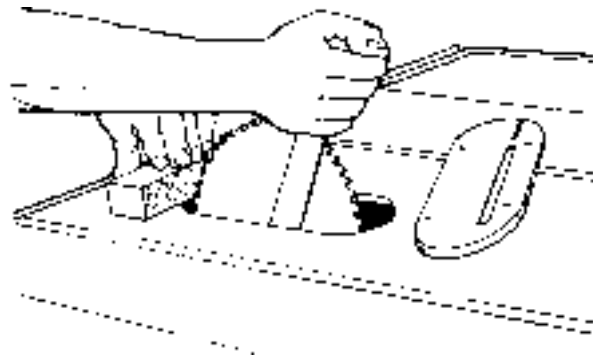

FIGURE 17
1. Wedge a block of wood between saw blade and table to prevent blade from rotating, Figure 17. Place the arbor wrench on the arbor nut (NOTE: right-hand threads).